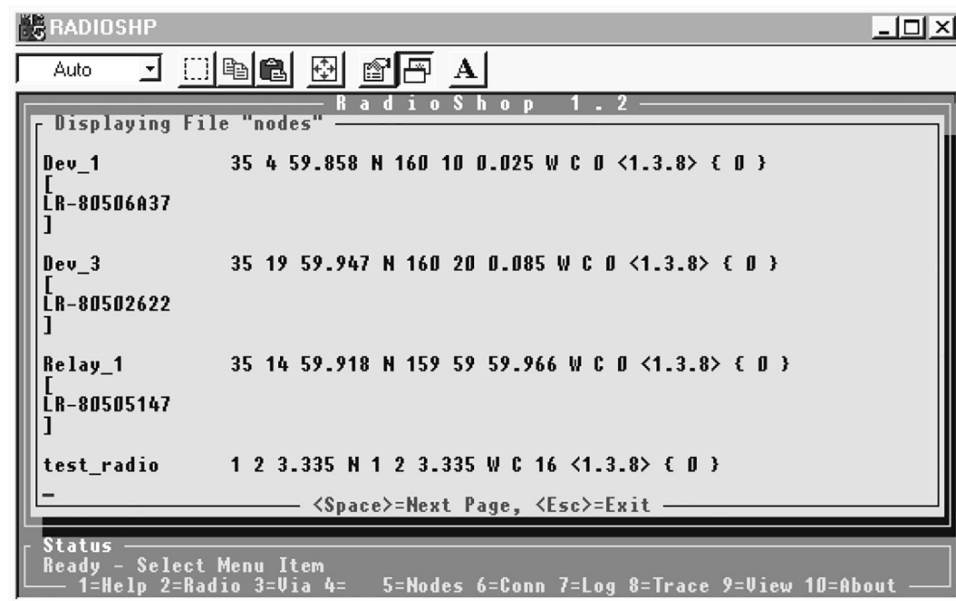

Figure 5. An example of contents in the nodes file.
- (k) To verify the Nodes table information is correct, press the <V> key at the *Nodes table Management* screen to select the **View Current Nodes File** option. Then, press the <Enter> key to view the contents of the Nodes table file. See Figure 5.